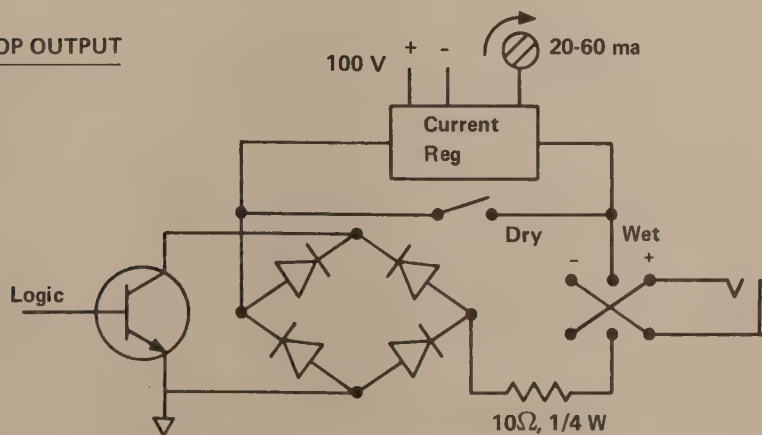
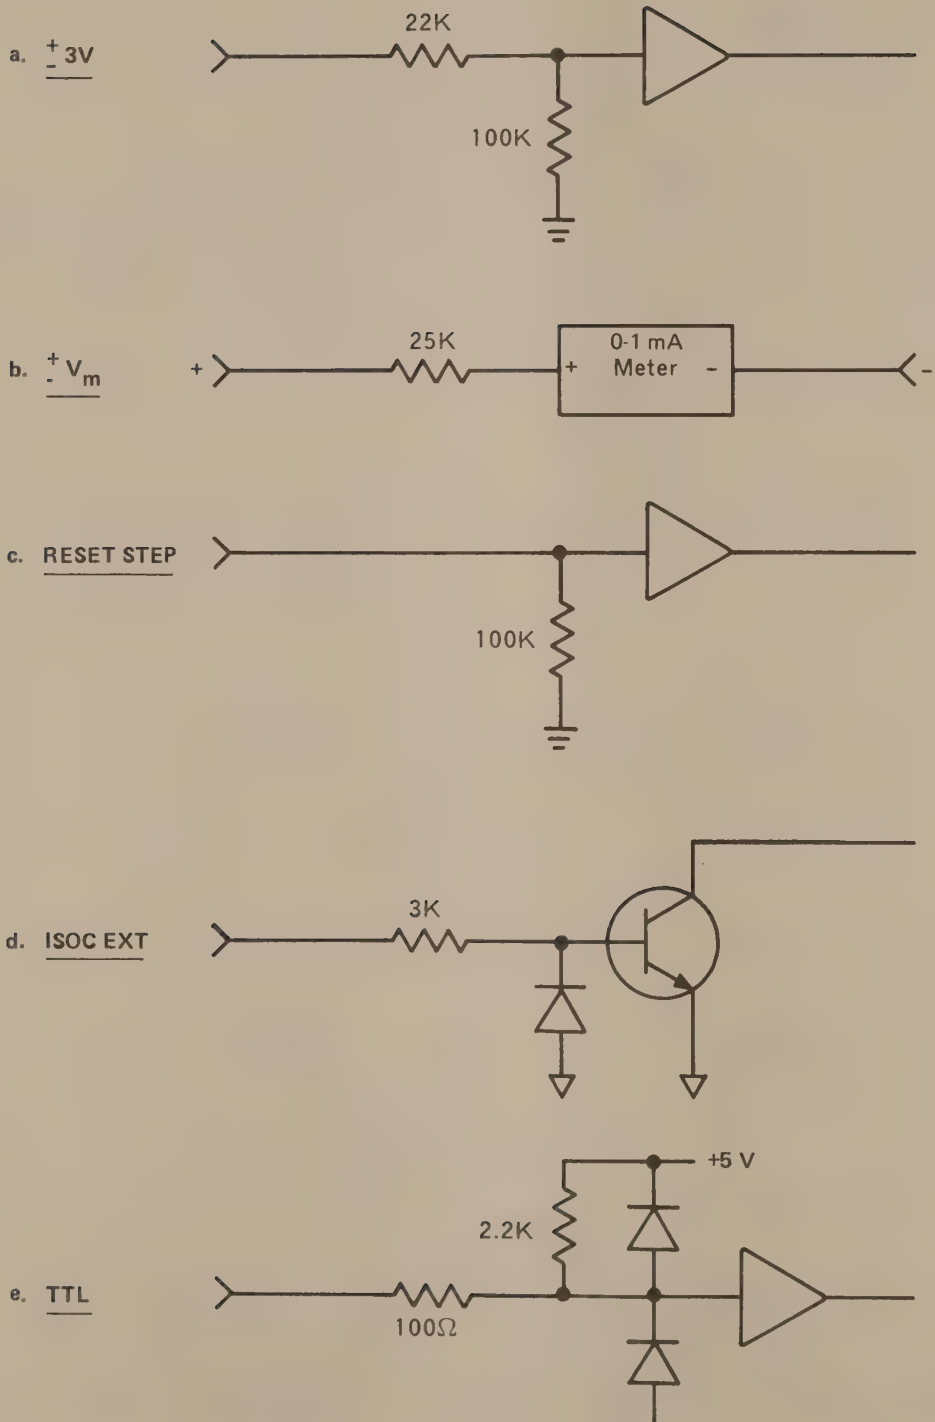

Fig. 4-1—Electrical Interface - Data Signals
Fig. 4-2—Electrical Interface - Inputs
4.03 The electrical interface is shown schematically in Figure 4-1 for the RS-232 and loop signals. Figures 4-2 and 4-3 show the Auxiliary interface for Inputs and Outputs, respectively.